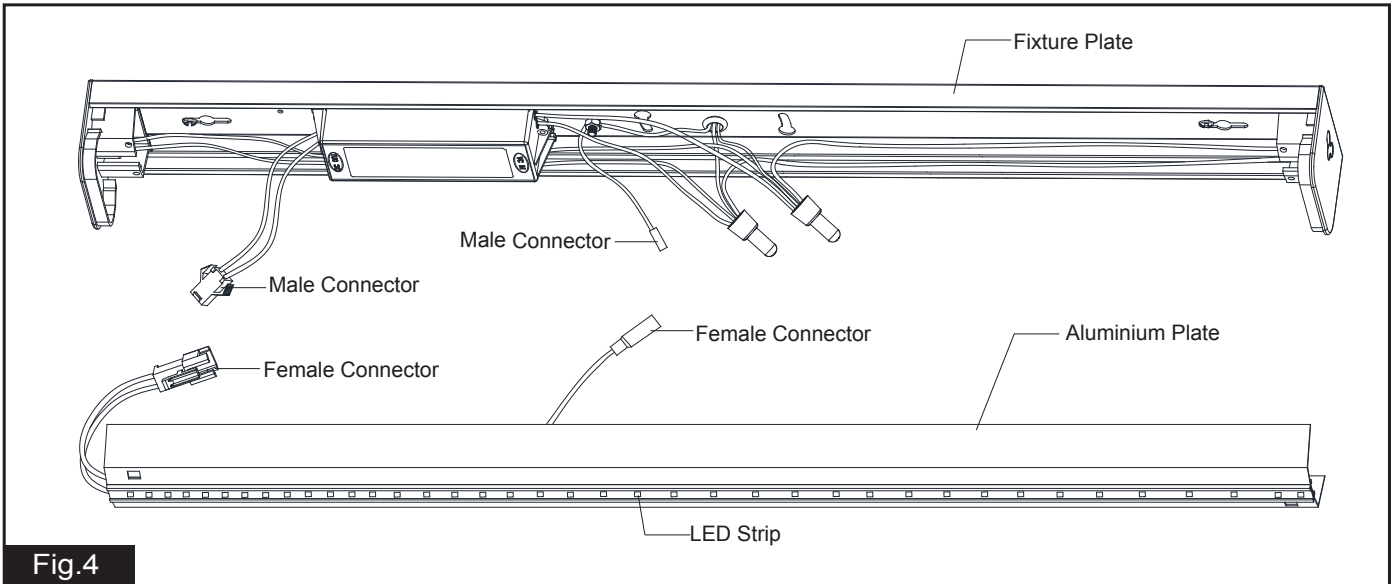

Fig.4
8. Plug the male connectors into female connectors. Attach the aluminium plate to fixture plate, and then secure it with two set screws. (See Fig.4,5)